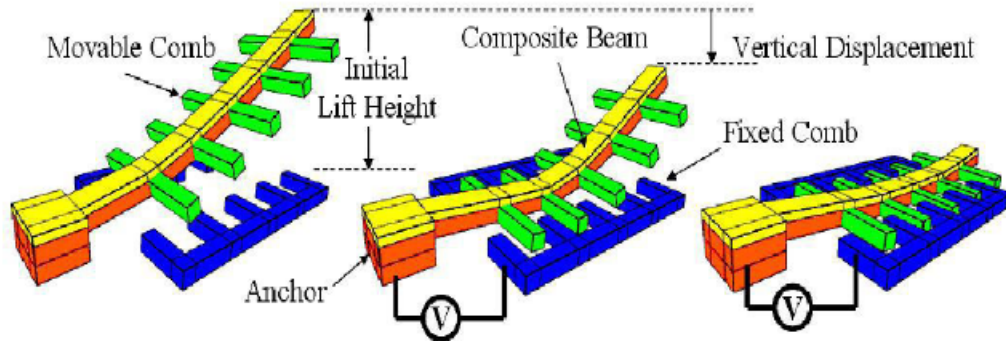

Figure 1. The resonator at different driving states. (a) Initial state. (b) Bias voltage state. (c) Critical bias voltage state.
**Figure 1.** (a) Layout and design parameters for a folded-flexure micromover, (b) Cross section of the micromover beams at two positions, showing the embedded metal offset, (c) Cross section of the micromover beams with vias between metal layers.